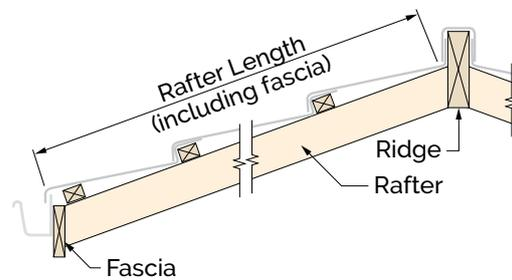

Figure 2.2.1
I. Determine the rafter length (**Figure 2.2.1**) and calculate the number of courses of tiles using formula **1** or from **Table 2.2.1**.